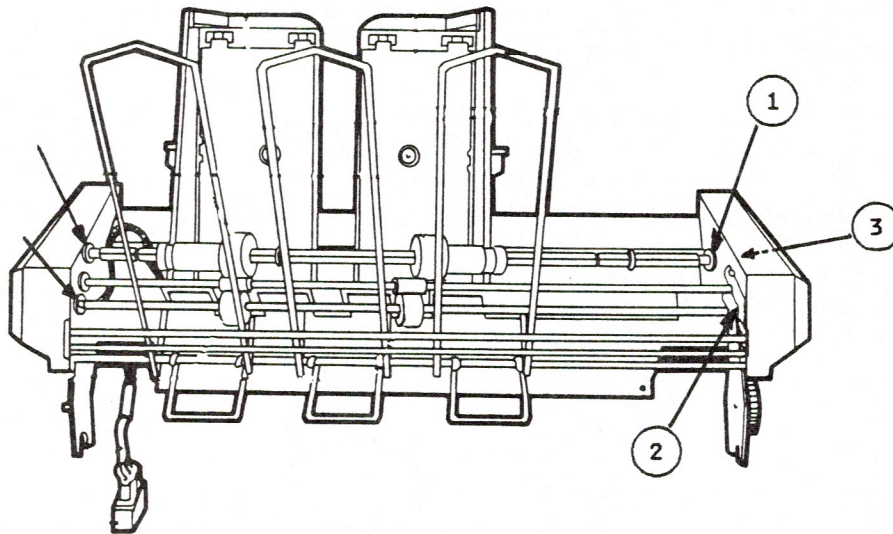

FIGURE 6
- Both ends of the square shaft (Figure 6, #1)
- Both ends of the front round shaft (Figure 6, #2)
- The inner gear of the square shaft (Figure 6, #3). To reach the inner gear of the square shaft, remove the two black Phillips screws from the right side plate and remove the plastic side cover. Then put one drop of Tellus oil on the bearing at the end of the square shaft.